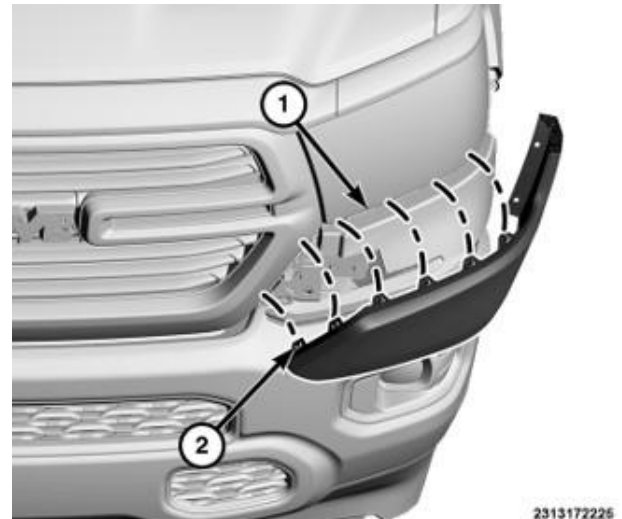

Figure C9 – Fascia Filler Panel
13. Starting at the top and using a wiggling motion as well as a trim stick, carefully release the clips from the headlamp support and working toward the grille (Figure C9).
29. Install the fascia filler panel (Figures C9 and C8).